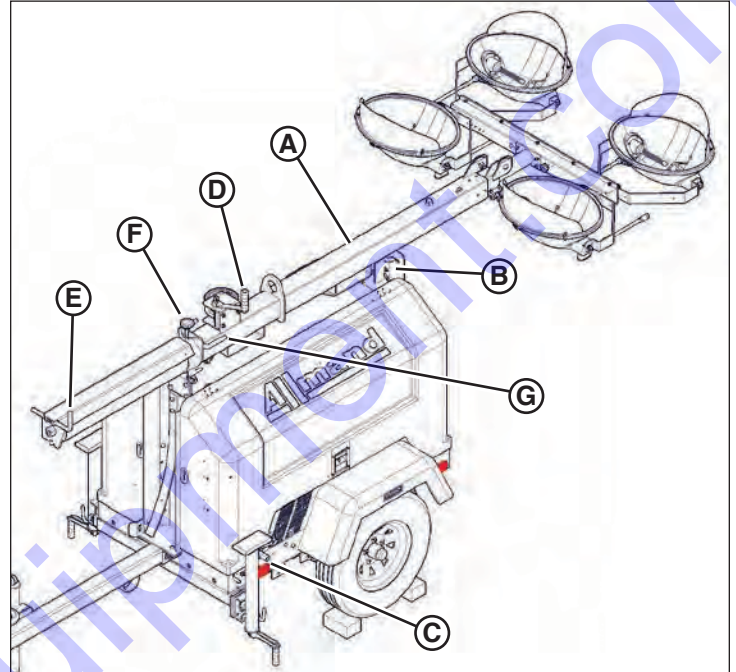

Figure 27
The manual winch tower (A, Figure 27) can be raised and extended by operating two hand crank winches. One winch, mounted with the handle extending through the side of the trailer frame, raises and lowers the mast from the horizontal towing position to the vertical position and back. The second winch mounted on the tower extends and retracts the telescopic sections.
3. Release the pin (B, Figure 27) that secures the mast to the rear mast support.
4. Operate the hand crank (C, Figure 27) on the right side of the trailer to raise the mast from horizontal to vertical.
5. Engage the automatic spring lock pin (E, Figure 27).
6. Operate the hand crank winch (D, Figure 27) on the tower clockwise to raise the lights vertically.
7. To rotate lights, turn the upper black knob (F, Figure 27) counterclockwise and turn the tower with the handles (G). Retighten knob.
2. Loosen the upper black knob (F, Figure 27) and rotate tower until handles (G) are parallel with the front of the trailer and retighten knob.
3. Operate the upper hand crank winch (D, Figure 27) counterclockwise to lower the lights to the lowest vertical position.
8. Secure the rear support release pin (B, Figure 27), locking the mast to the rear tower support for towing.
4. Operate the lower hand crank winch (C, Figure 27) on the side of the trailer clockwise to take up any slack in the cable.
5. Disengage the automatic spring lock (E, Figure 27).